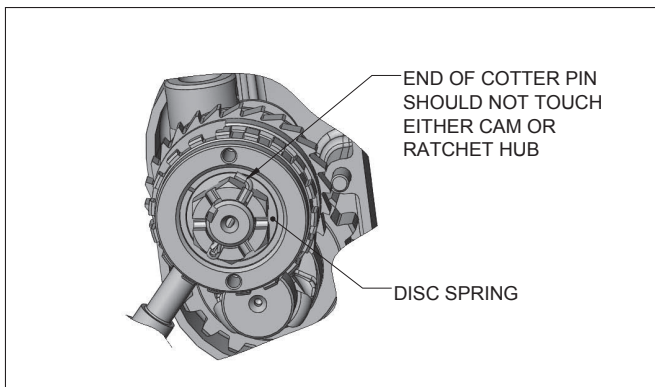

Figure 15. - Brake Nut Cotter Pin Assembly
- g. Turn Lever Ratchet Hub clockwise until vertical ends (shoulders) of the helical surfaces of lever ratchet hub and brake cam are in contact. Place the disc spring on the brake cam with the large end against the brake cam. Assemble brake adjusting nut to shaft and tighten nut until snug. Then continue to tighten nut at least one but no more than two slots in order to align hole in shaft with slot in nut. Insert the cotter pin and bend the ends of same as shown in Fig. 15.